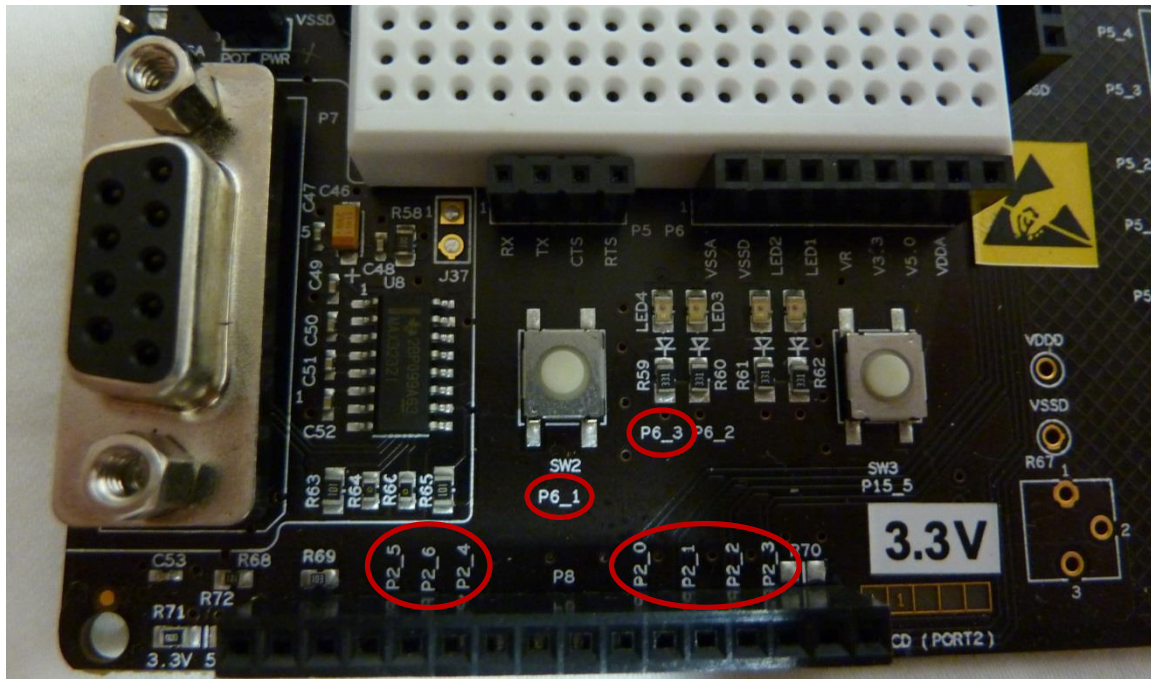

Figure 5: LED, pushbutton, and LCD port area of the PSoC 5LP development kit
3. Look at the PSoC development board (or look at Figure 5 below) and take note of the markings next to the pushbutton marked SW2, the LED marked LED4, and LCD port. All of these components are beneath the prototyping area (the white square with holes). The markings that start with a P indicate the physical port and pin on the PSoC that the components are connected to. The number after the P indicates the port number and the number after the underscore indicates the pin number in the port.